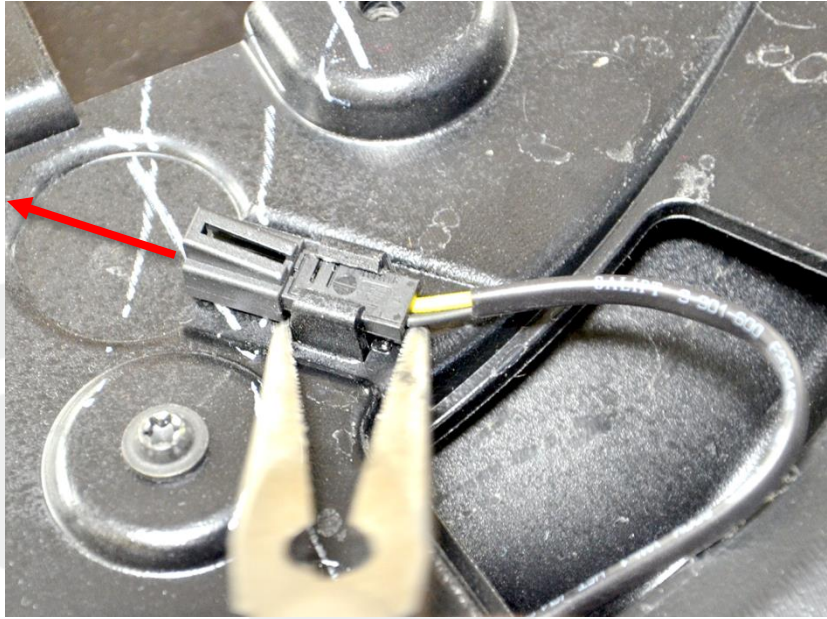

Figure 3
6. If equipped, remove the cable connector for the door armrest ambient light by sliding the connector through the clip. If the connector cannot be unclipped by hand, gently use needle nose pliers to push the connector through the clip. (Figure 3).